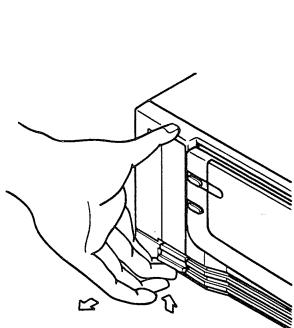

Fig. 1
- Step 1 Remove a slot cover. (See Fig.1)